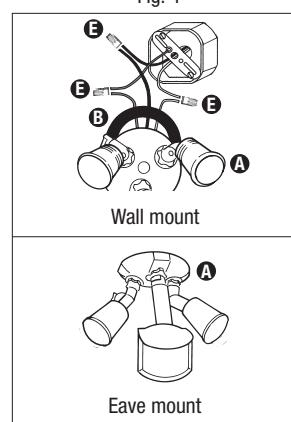
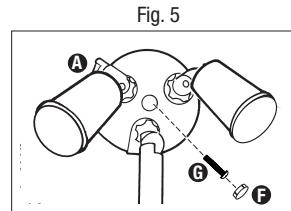

Fig. 4
Fig. 5
- Thread fixture wires through coverplate gasket (B) (Fig. 4).
- Connect fixture black wire to house black wire, fixture white wire to house white wire, and copper colored ground wire (coming from the fixture coverplate) to house ground wire using wire nuts (E) provided.
- Attach fixture (A) to the mounting bracket (H) using the center bolt (G) provided. Be sure no loose wires remain sticking out from underneath the coverplate. Insert plastic color-matched plug (F) in center bolt hole for finished appearance (Fig. 5).